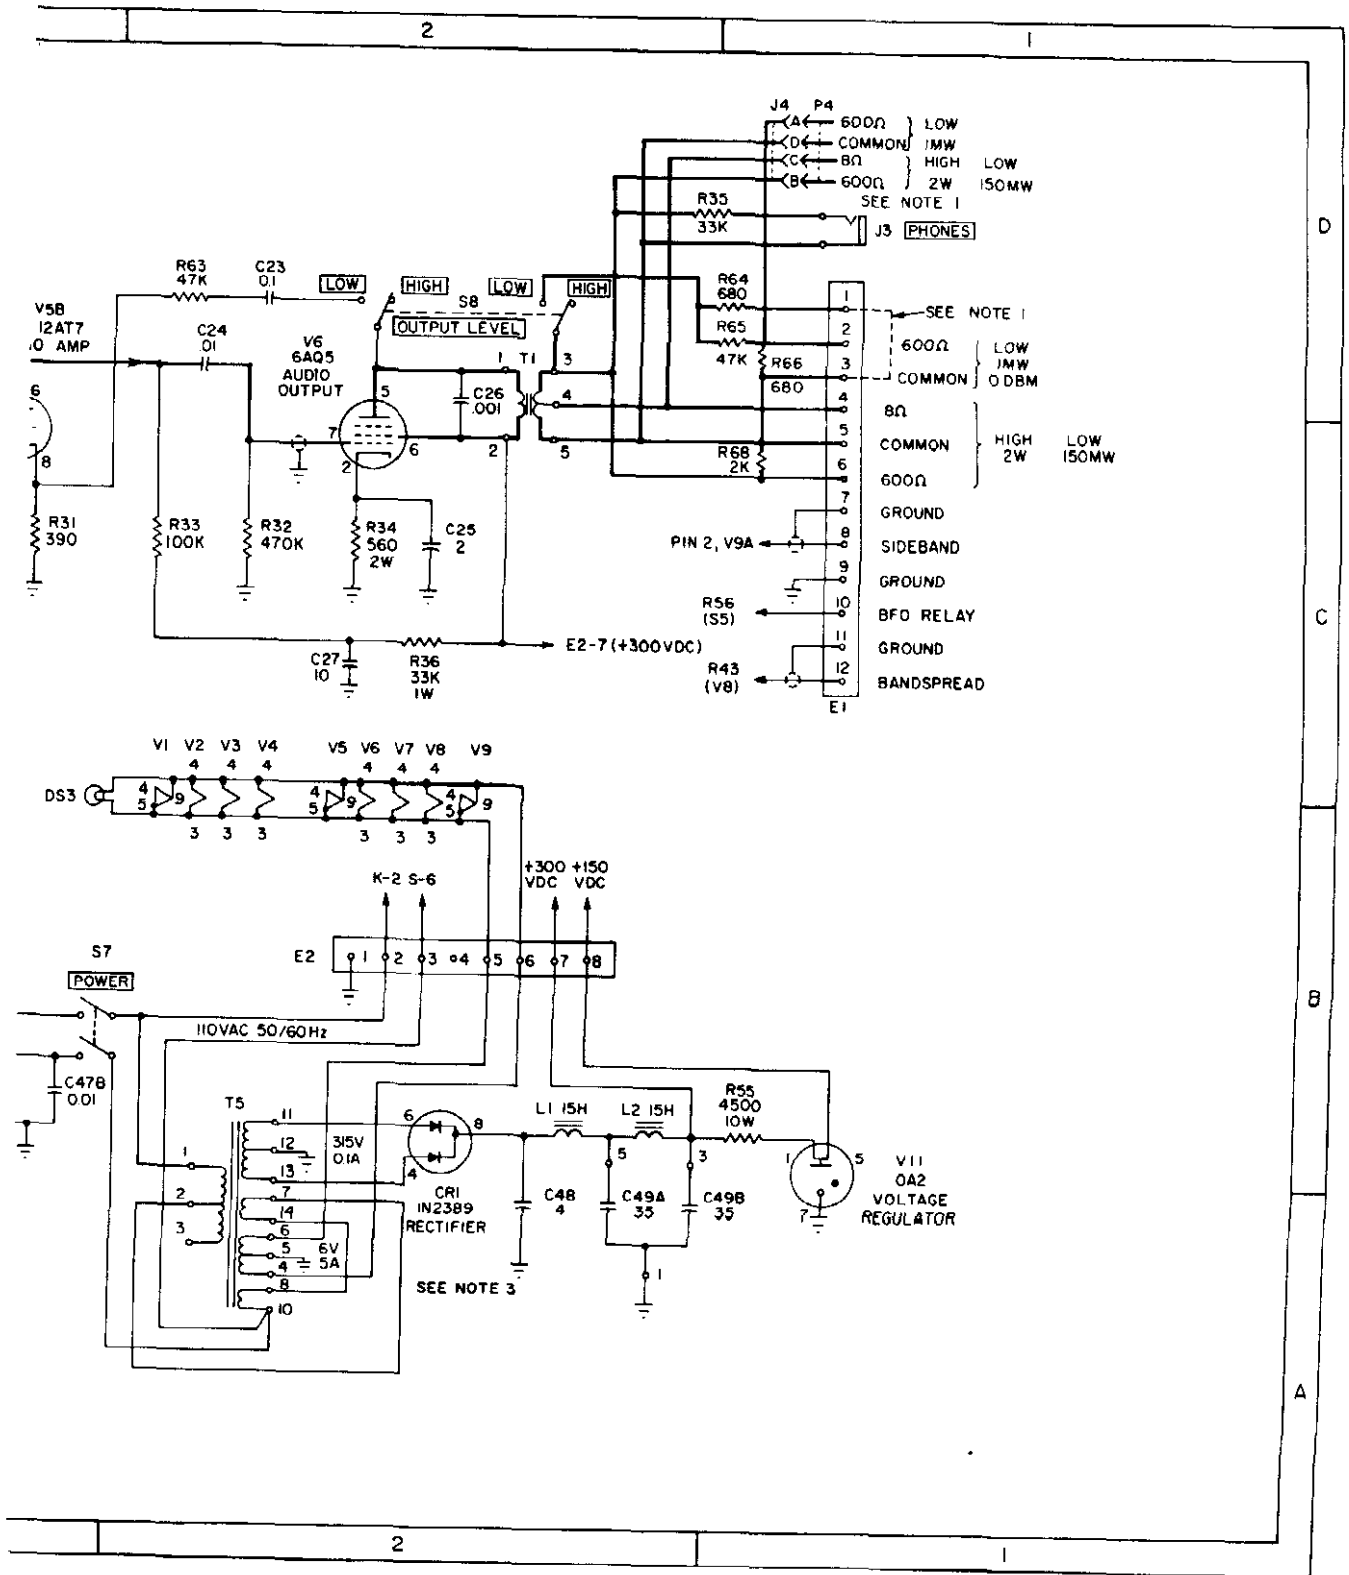

Figure 5-3. Single Sideband Converter CV-591A/URR, Schematic Diagram
5.4.1.1 Failure of lamp I3 to glow (figure 5-3) indicates loss of AC voltage. A quick check to determine whether fuse F1 is defective may be made by depressing **SIDEBAND** switch S6. Relay K2 is connected across the AC line and should cause the opposite Upper or Lower indicator lamp to light when depressed. If switching occurs, probable trouble could be a defective lamp. Failure of K2 to switch indicates loss of AC input, which could occur through failure of F1 or a disconnected line cord. Therefore, F1 and the line cord should be checked before further troubleshooting takes place. In the event F1 fails the second time, further troubleshooting becomes necessary. Power should be removed from the converter and a suitable multimeter should be used to check the power supply circuitry for possible short circuit of a component.
ZONING FOR SCHEMATIC DIAGRAM FIGURE 5-3
- C. TUBE PINS VOLTAGE & RESISTANCE VALUES - FIGURE 5-3.